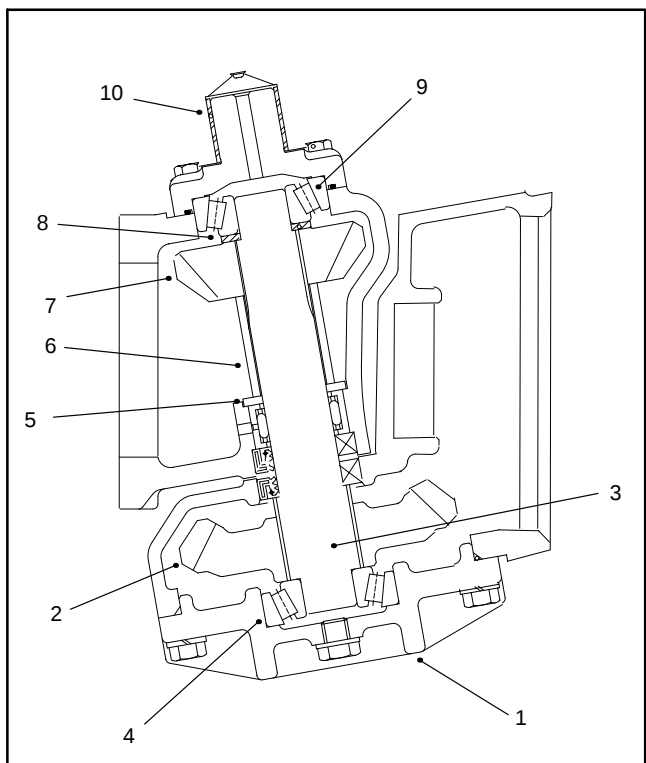

Figure 69
2. Install the lower bevel gear and bevel gear shaft in the axle case cover. Coat a new o-ring with grease and install the axle case cover (Fig. 69). Tighten cover screws from 17 to 20 ft-lb (23 to 27 N-m).
3. Slide the bevel gear case over the bevel gear shaft and install the thrust washer, spacer, bevel gear and collar. Make sure the bevel gear shaft is completely seated in the upper and lower bearings (Fig. 69).